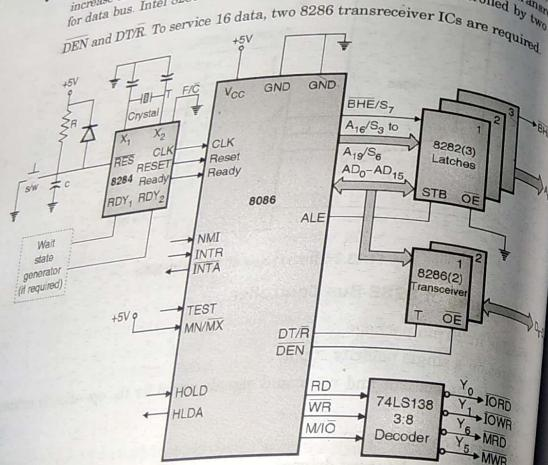

Fig. 11.14.1 : Block diagram of minimum system in minimum mode
- The minimum mode system block diagram is as shown in Fig. 11.14.1. As shown in Fig. 11.14.1, the system in the minimum mode contains the minimum number of chips such as 8282, 8284 and if necessary, the 8286 data buffers.
- As shown in Fig. 11.14.1 the signals $A_{D_0} - A_{D_5}$, $A_{16} / S_0 - A_{15} / S_5$ and BHE / S_7 are multiplexed. These signals are demultiplexed by external latches and the address signal. If 16 bit address is used then two latches are required. These latches are required and if full 20 address is used then three latches are required. These latches provide more output drive capacity.